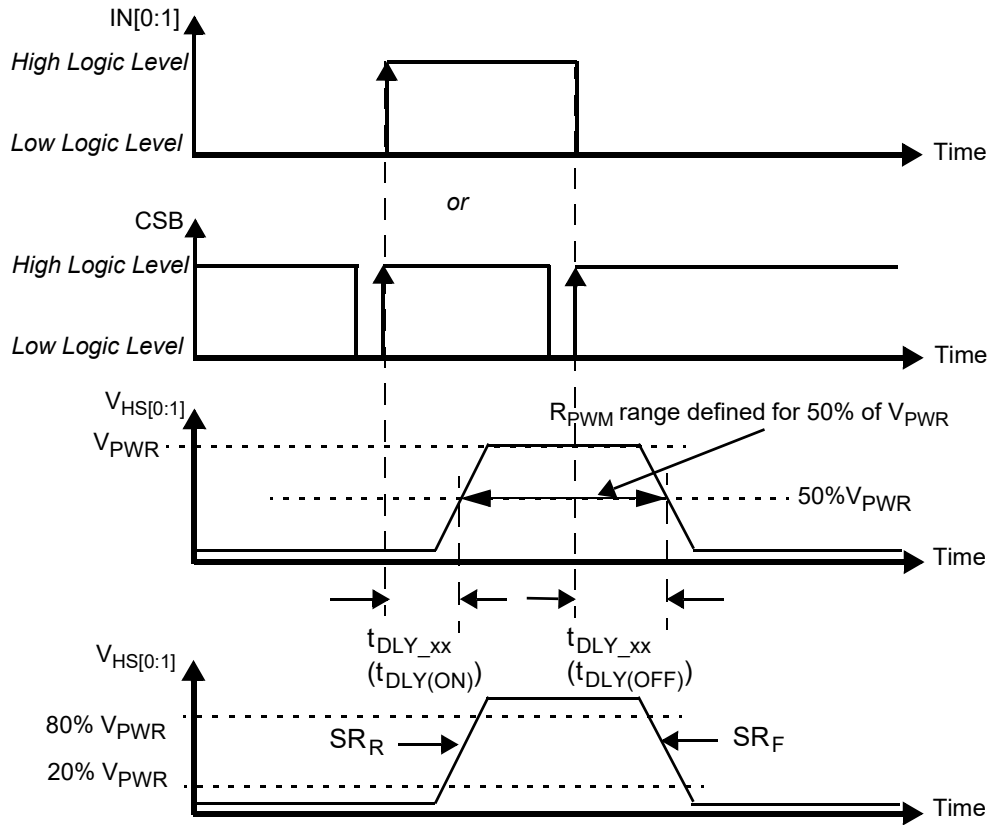
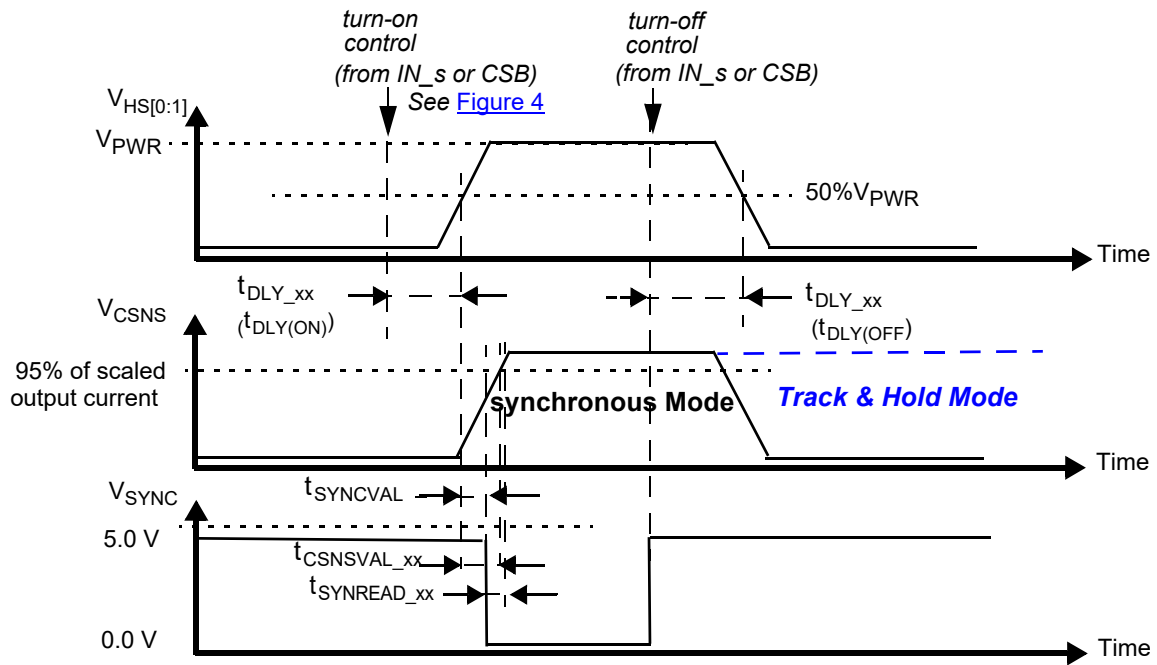

Figure 4. Output voltage slew rate and delay
Figure 9. Synchronous and Track & Hold current sensing modes: associated delay and settling times
30. Rising and Falling edge slew rates specified for a 20 to 80% voltage variation on a 10 Ω resistive load (see Figure 4).
32. Time required to switch off the channel after detection of overtemperature (OT), overcurrent (OC), SC or UV error (time measured between start of the negative edge on the FSB pin and the falling edge on the output voltage until $V(\text{HS}[0:1]) = 50\%$ of V_{PWR}).
33. Settling time (= $t_{\text{CSNSVAL_xx}}$), SYNC output signal delay (= $t_{\text{SYNCVAL_xx}}$) and Read-out delay (= $t_{\text{SYNREAD_xx}}$) are defined for a stepped load current ($100\text{ mA} < I(\text{LOAD}) < I(\text{OCLX_A_FOR_CSNS_RATIO_S} = 1)$, AND $300\text{ mA} < I(\text{LOAD}) < I(\text{OCLX_A_0_FOR_CSNS_RATIO_S} = 0)$). (see Figure 9 and Output current monitoring \(CSNS\))
- Settling time ($= t_{\text{CSNSVAL_xx}}$), SYNC output signal delay ($= t_{\text{SYNCVAL_xx}}$) and Read-out delay ($= t_{\text{SYNREAD_xx}}$) are defined for a stepped load current ($100\text{ mA} < I(\text{LOAD}) < I_{\text{OCLX A FOR CSNS_RATIO_S}} = 1$, AND $300\text{ mA} < I(\text{LOAD}) < I_{\text{OCLX A_0 FOR CSNS_RATIO_S}} = 0$). (see Figure 9 and Output current monitoring \(CSNS\))
The CS pin allows independent current monitoring of channel 0 or channel 1 up to the steady-state overcurrent threshold. It can also be used to sense the device temperature. The different functions are selected by setting bits CSNS1_en and CSNS0_en to the appropriate value (Table 23). When the CSNS pin is sensed during switch-off in the (optional) track & hold mode (see Figure 9), it outputs the scaled value of the load current as it was just before turn-Off. When several devices share the same pull-down resistor, the CSNS pins of devices, the current of which is not monitored, must be tri-stated. This is accomplished by setting CSNS0_en = 0 and CSNS1_en = 0 in their GCR register (Table 12). Settling time ($t_{CSNSVAL_XX}$) is defined as the time between the instant at the middle of the output voltage’s rising edge ($HS[0:1] = 50\%$ of V_{PWR}), and the instant at which the voltage on the CSNS pin has settled to $\pm 5.0\%$ of its final value. Anytime an overcurrent window is active, the CSNS pin is disabled (see Overcurrent detection on resistive and inductive loads). The current and temperature sensing functions are unavailable in Fail-safe mode and in Normal mode when operating without the V_{DD} supply voltage. In order to generate a voltage output, this pin requires a pull-down resistor ($R(CSNS)=1.0\text{ k}\Omega$ typ. and $470 < R(CSNS) < 10\text{ k}$). When the current sense resistor connected to the CSNS pin is disconnected, the CSNS voltage is clamped to $V_{CL(CSNS)}$. The CSNS pin can source currents up to about 5.6 mA.
To synchronize current sensing with an external process, the SYNC signal can be connected to a digital input of an external MCU. An open-drain pull-down on SYNC indicates that the current sense signal is accurate and ready to be read. The current sense signal on the CSNS pin has the specified accuracy $t_{SYNCREAD_XX}$ seconds after the falling edge on the SYNC pin (Figure 9) and remains valid until a rising edge is generated. The rising edge that is generated by the SYNC pin at the turn-OFF instant (internal or external) may also be used to implement synchronization with the external MCU. Parameter $t_{SYNCVAL_XX}$ is defined as the time between the instant at the middle of the output voltage rising edge ($HS[0:1] = 50\%$ of V_{PWR}), and the instant at which the voltage on the SYNC-pin drops below 0.4 V (V_{SOL}). The SYNC pins of different devices can be connected together to save micro-controller input channels. However, in this configuration, the CSNS of only one device should be active at a time. Otherwise, the MCU is not be able to determine the source of the SYNC signal. The SYNC pin requires an external pull-up resistor to V_{DD} .